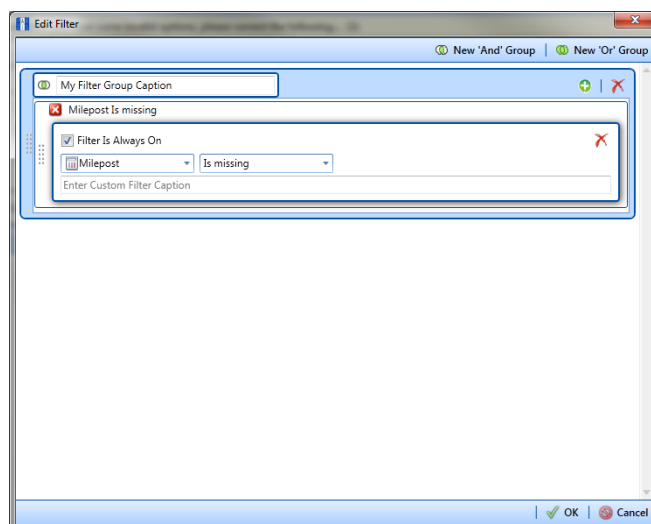

Figure 9-22. New 'And' Filter Group
- a** Click  **New 'And' Group** to open the filter properties group box (Figure 9-22, page 408).